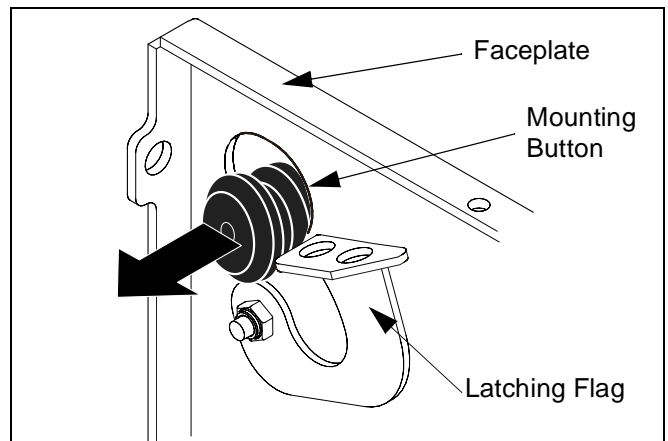

Figure 5: Align Mounting Buttons with Faceplate
4. Slide mounting buttons through teardrop holes until recessed area of mounting buttons is aligned with lower area of teardrop mounting holes. (see Figure 5)